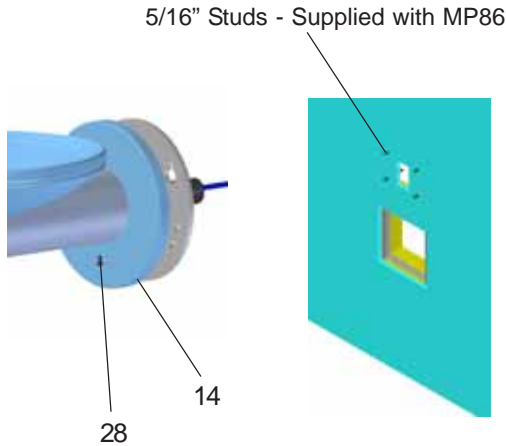

Figure 7 - EDFPB114C Fountain Installation
3. **Install fountain.** Remove screw (Item 28) from cover plate and slide cover plate (Item 14) toward basin. Mount the fountain to the wall and mounting plate with (4) 5/16" hex nuts (provided with mounting plate). Tighten securely. (See Figure 7)